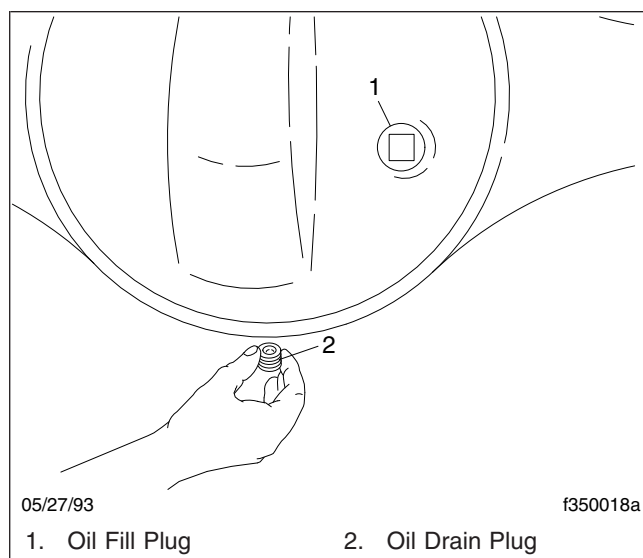

Fig. 4, Axle Housing Drain and Fill Plugs
4. Ensure that both bracket pins are in place and secured by retainer pins and cotter pins. See **Fig. 4**.